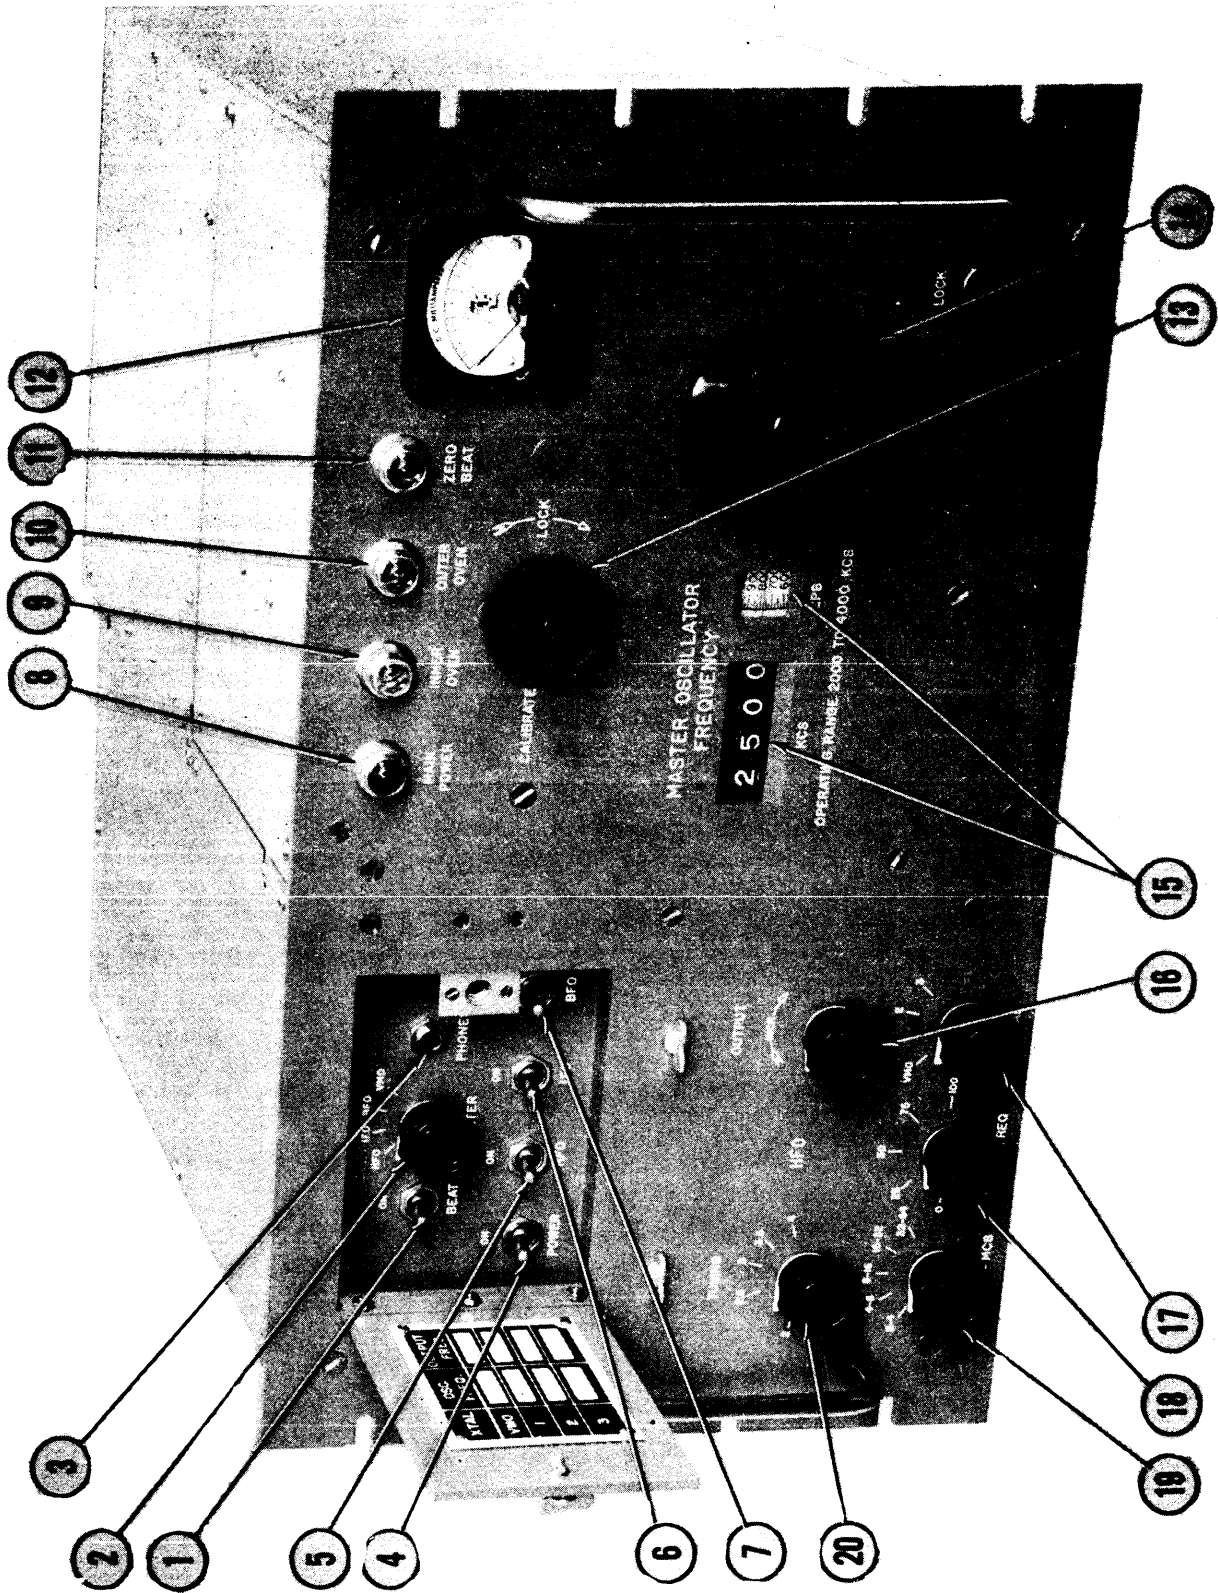
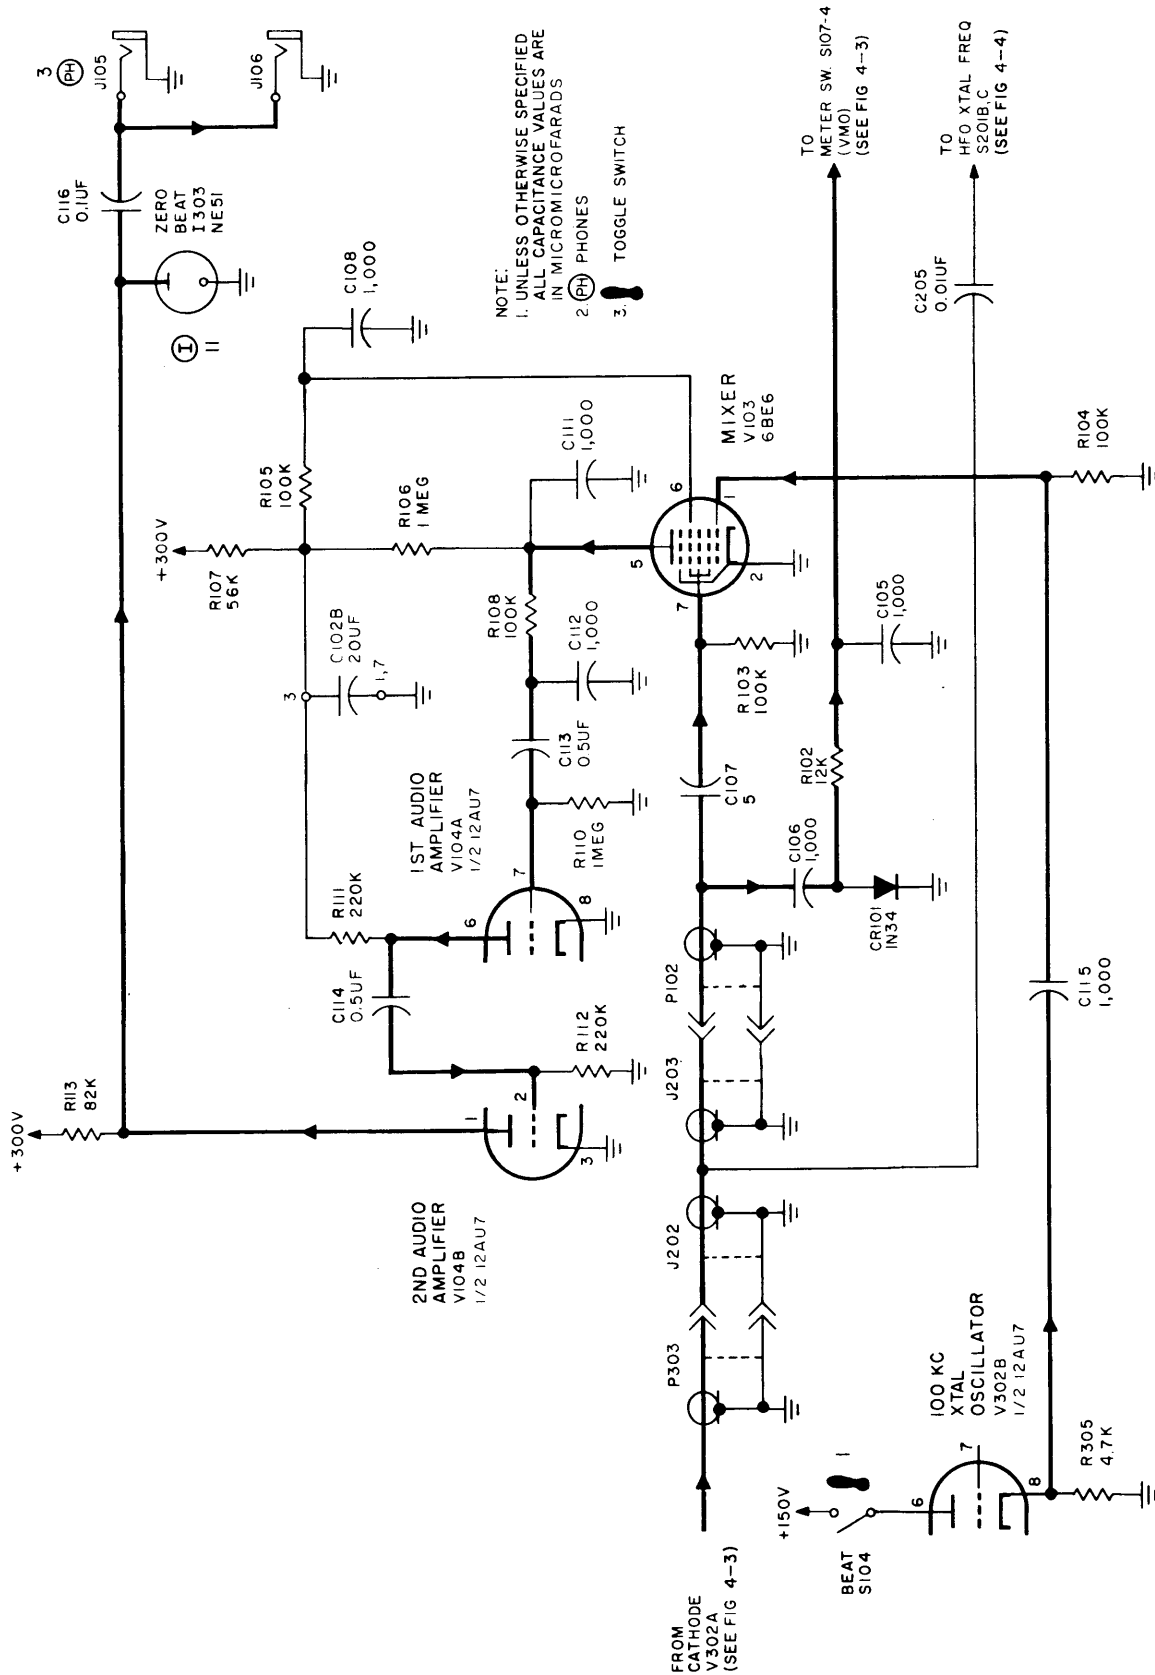
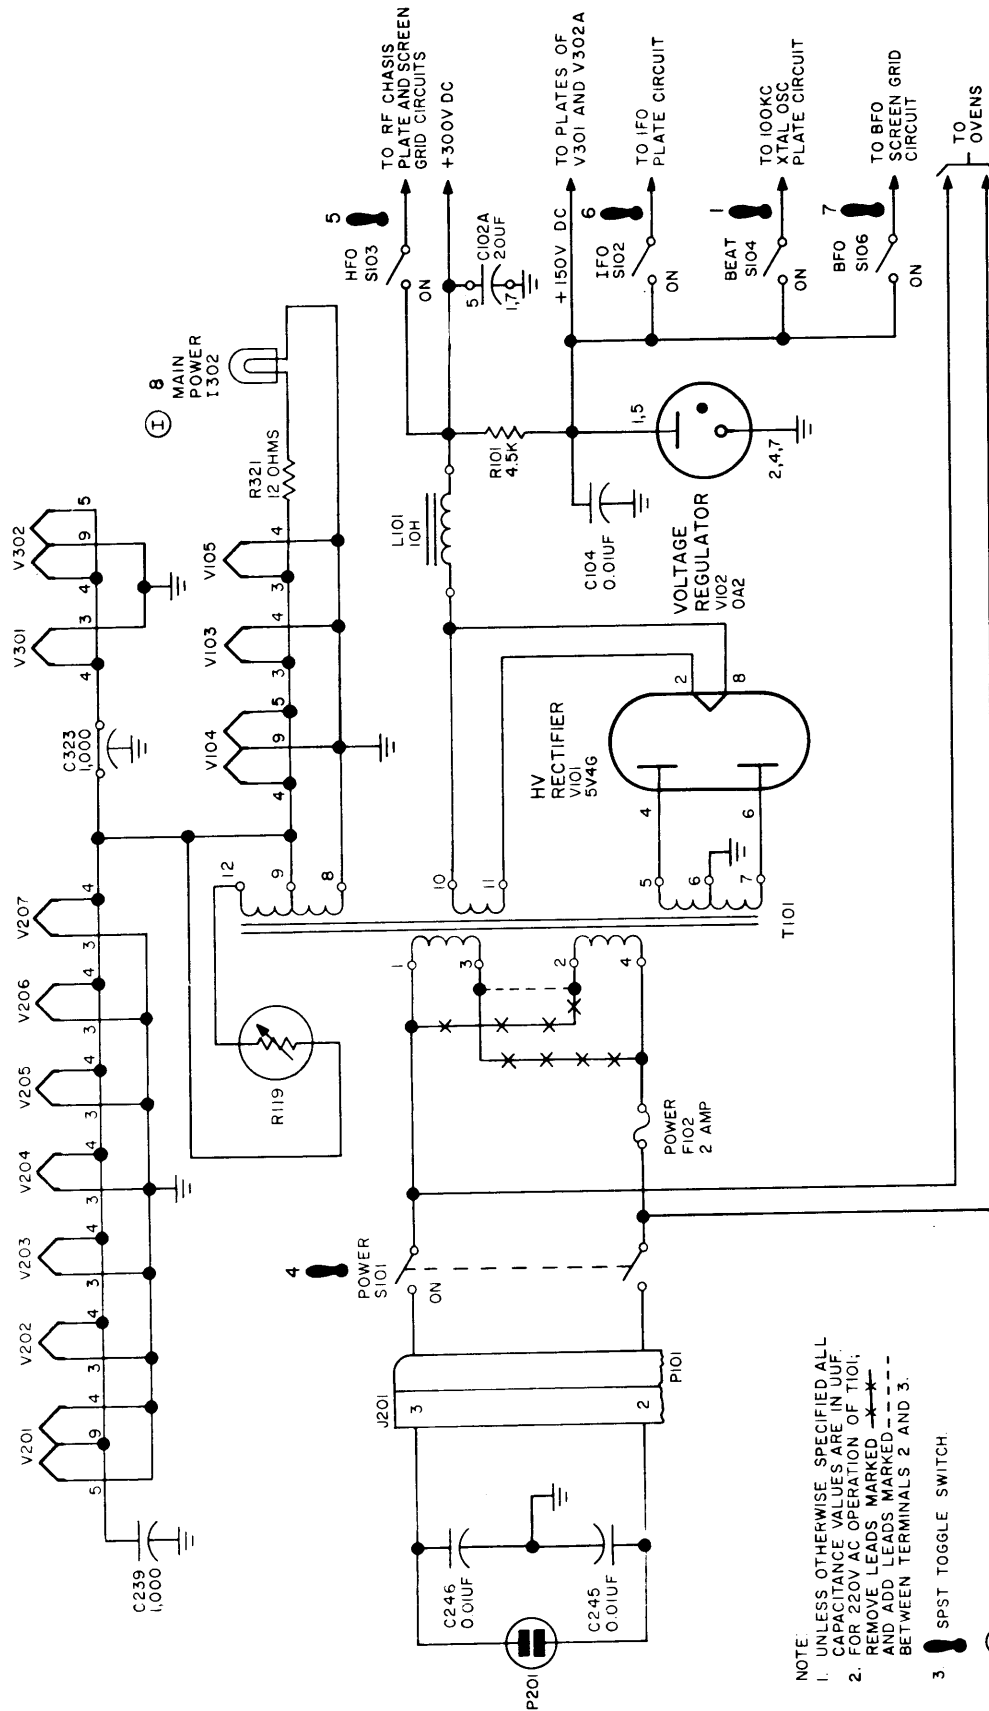

Figure 3-1. Operating Controls
Figure 4-6. Schematic Diagram, Calibrating Chain
Figure 4-8. Schematic Diagram, Power Supply
a. MASTER OSCILLATOR FREQUENCY knob C301 and C302 is a variable capacitor control designated 14 on figure 3-1. It varies the output frequency of the master oscillator within its operating range of 2 to 4 mc. The associated dial, designated 15 on figure 3-1, indicates the oscillator's output frequency. Due to frequency multipliers in the VOX's RF section, the VOX's outputs are as shown in the tabulations on page 4-2.
b. C303 under small cover plate at left of meter is a screwdriver control (undesignated on figure 3-1). Refer to c below.
c. CALIBRATE L301 is a slug inductance control designated 13 on figure 3-1. The screwdriver control, b above, and CALIBRATE control are used in "zero beating" the output of the master oscillator (2 to 4 mc) against the 100-kc standard oscillator. For example, at 2 mc, the 2-mc fundamental of the master oscillator will "zero beat" with the 20th harmonic of the 100-kc standard oscillator.
d. ZERO BEAT I303 is an indicator designated 11 on figure 3-1. During calibration of master oscillator vs 100-kc standard oscillator, the indicator goes off when a harmonic of the 100-kc oscillator matches a harmonic of the 2- to 4-mc master oscillator. (See figure 4-6.)
e. INNER OVEN I301 is an indicator designated 9 on figure 3-1. Refer to f below.
f. OUTER OVEN I304 is an indicator designated 10 on figure 3-1. INNER OVEN and OUTER OVEN indicators go on when the ovens are being heated by resistors R307 and R308 and R309 and R310, respectively. This requires closure of switches S301 and S302 and S303, respectively.
g. MAIN POWER I302 is an indicator designated 8 on figure 3-1. It indicates filaments of tubes V103, V104, and V105 contained in power supply chassis are receiving 6.3-volt filament supply (figure 4-8).
h. Output meter M301 is designated 12 on figure 3-1. In conjunction with METER selector switch, designated 2 in figure 3-1, it indicates output level of HFO, IFO, BFO, or VMO.
(1) XTAL S201. - Switch control designated 17 on figure 3-1. Selects circuit determining VOX's master frequency oscillator. In position VMO, the
(2) XTAL FREQ C210. - Variable capacitor control designated 18 on figure 3-1. When VOX's crystal oscillator stage (V202) is used as the master oscillator, it "pulls" the crystals frequency a limited amount to obtain the desired output frequency.
(3) OUTPUT R215. - Potentiometer control designated 16 on figure 3-1. Controls RF output level of VOX.
(4) BAND-MCS S202. - Switch control designated 19 on figure 3-1. Controls RF multiplying factor of VOX's 2- to 4-mc oscillator; namely, 1 for 2-4 mc output; 2 for 4-8 mc output; 4 for 8-16 mc output; 8 for 16-32 mc output; 16 for 32-64 mc output.
(5) TUNING C225. - Switch control designated 20 on figure 3-1. Tunes HFO output circuits; should be used in conjunction with meter designated 12 on figure 3-1 during tuning operation; that is, maximizing meter deflection.
a. CALIBRATING CHAIN. (See figure 4-6.) - Contained within the oven enclosure of the VMO section
(figure 4-3) is a highly stable 100-kc crystal oscillator against which the VMO is calibrated. When the 100-kc oscillator is turned on, both the 100-kc and the VMO oscillator voltages are fed to mixer V103. Here the difference frequency between one of the 100-kc oscillator's harmonics and the VMO's harmonics is passed by filter action of capacitors C111, C112, and resistor R108. This is a low-pass filter with a rising characteristic at very low frequencies. The audio signal is then amplified successively by the first and second halves of V104. Toggle switch S104 turns on or off the 100-kc oscillator's plate supply. This switch is designated 1 on figure 3-1. ZERO BEAT indicator I303 on the front panel (control designated 11 on figure 3-1) is connected into the plate circuit of the final amplifier so that the zero beat may be seen by the flashing of the neon lamp. Earphones may be plugged in at the output of the final amplifier at jack J105, in order to pick up the zero beat frequency audibly. The circuit, built around crystal CR101 containing C105, C106, and R102, is for metering the VMO output.
c. POWER SUPPLY. (See figure 4-8.) - Transformer T101 supplies the necessary power and filament voltages. V101 is a full-wave vacuum tube rectifier with choke (L101) filter output. C104 provides low impedance paths to grounds for any RF current while R101 is used to limit the current passing through tube V102. This tube is a glow discharge regulator type whose output voltage is held constant and provides +150 volts. R119 is a "ballast lamp" which regulates V301 and V302 filament supply to 450 ma for frequency stabilization purposes.
(1) POWER S101. - Toggle-switch control designated 4 on figure 3-1. Turns power on the VOX.
(2) PHONES J105. - Jack designated 3 on figure 3-1. Audible monitor of "zero beat" between VOX's 100-kc and master frequency oscillators.
(3) BEAT (ON-OFF) S104. - Toggle-switch control designated 1 on figure 3-1. Supplies B+ to VOX's 100-kc oscillator so that mixer V103 in calibrating chain receives 100-kc and VMO oscillator voltages for production of beat tones.
(4) HFO S103. - Toggle-switch control designated 5 on figure 3-1. Connects B+ to HFO tubes V202 through V207.
(5) IFO S102. - Toggle-switch control designated 6 on figure 3-1. Connects B+ to IFO tube V201.
(6) BFO S106. - Toggle-switch control designated 7 on figure 3-1. Connects B+ to BFO tube V105.
FROM CATHODE FOLLOWER V202A SEE FIG. 4-6)